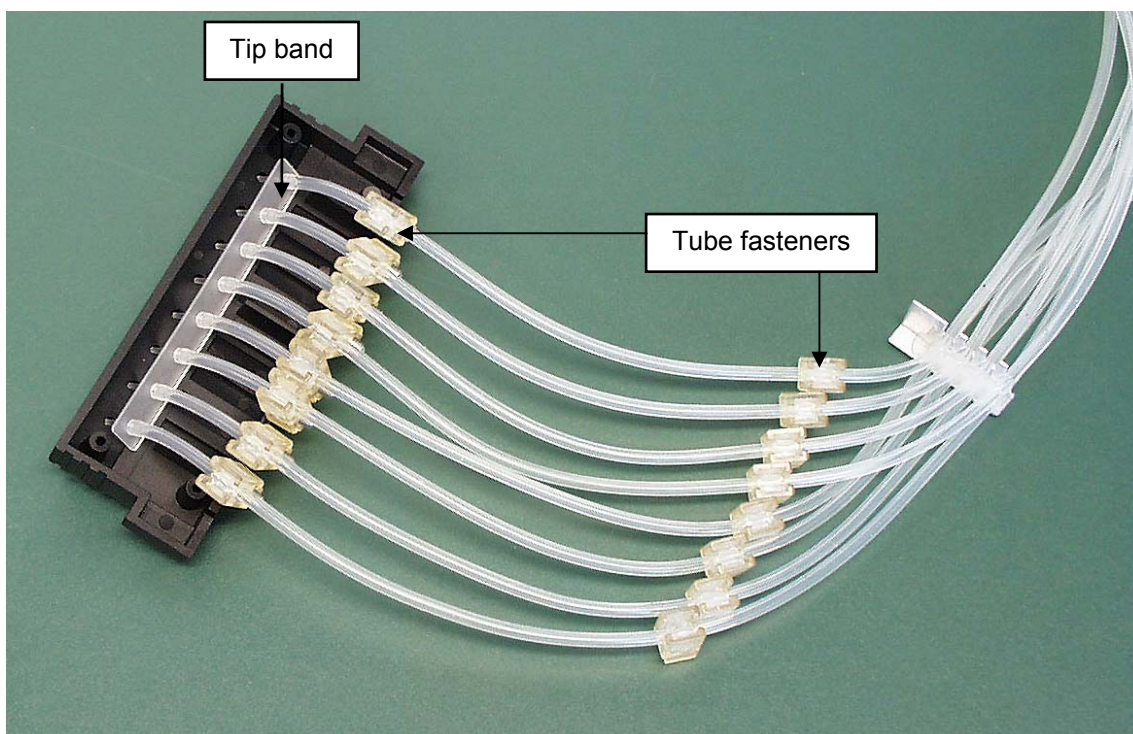
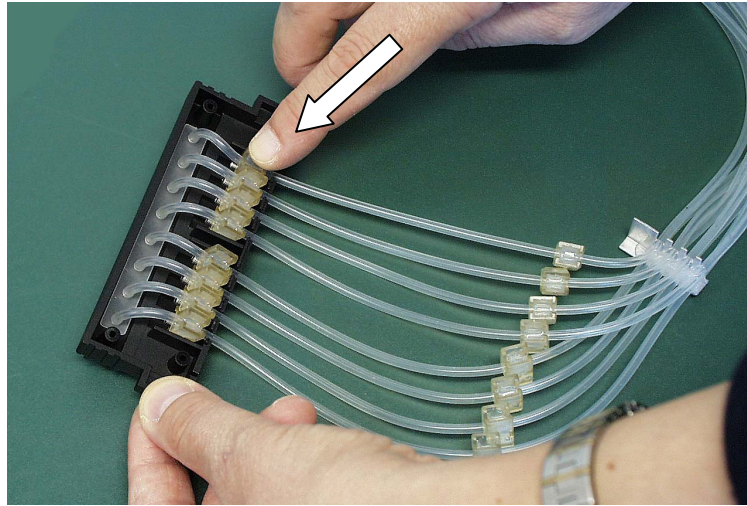
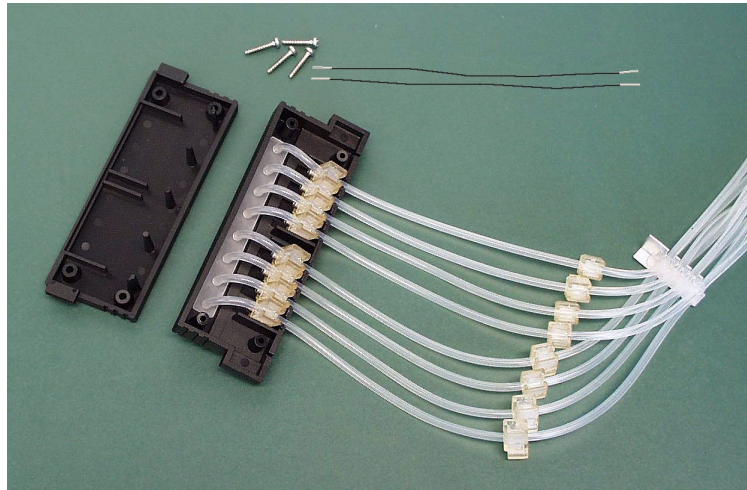

Fig. 7.16 Inserting the tip manifold into the lower part of the dispensing cassette
Fig. 7.17 Pressing the tube fasteners into place
Fig. 7.18 New tubing inserted into the lower part of the dispensing cassette
3. Insert the tip manifold so that the tips go through the holes in the lower part of the dispensing cassette (*Fig. 7.16*) and guide the tubes through the eight openings in the side wall by pressing the small cubic tube fasteners into place (*Fig. 7.17*). Ensure that each tube is in its designated opening (*Fig. 7.18*).